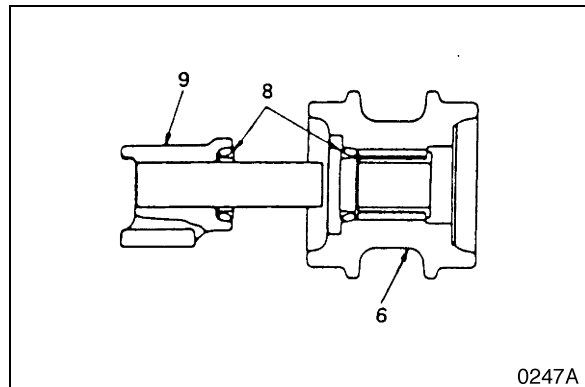

Figure 46
2. Insert group seal (8, Figure 46) into the roller (6) and bushing.